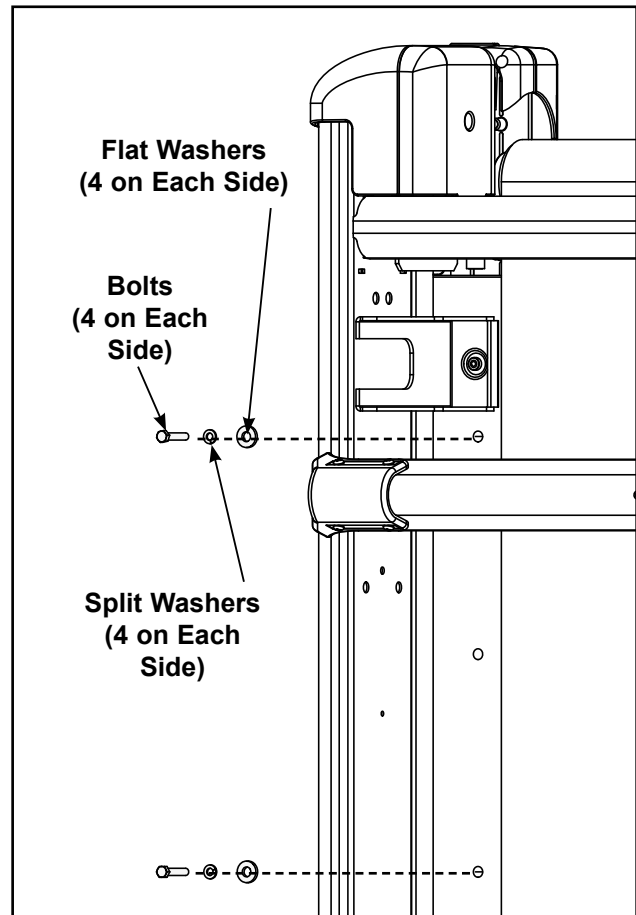

Figure 5
- B. Using a 7/16" socket wrench, remove the four bolts, split washers and flat washers that hold one of the top platforms in place. Repeat this step for the other side. See Figure 5.
- B. Using a 7/16" socket wrench, install the four bolts, split washers and flat washers that hold each of the top platforms in place. Repeat this step for the other side. See Figure 5.